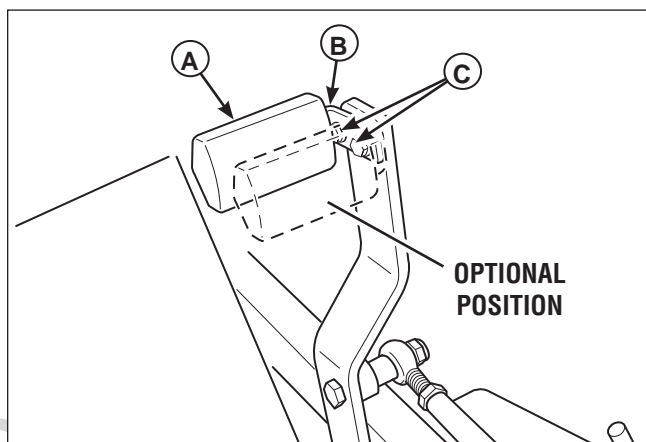

Figure 38. Foot Pedal Adjustment
1. Remove the foot pedal (A, Figure 38) from the pedal mount tab (B).
2. Remove the pedal mount hardware (C) and rotate the tab 180 degrees.
4. Reinstall the foot pedal on the pedal mount tab in the proper orientation as shown in Figure 38.